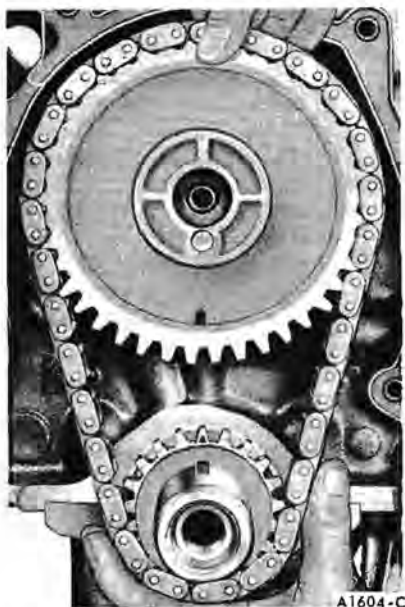

FIG. 33—Timing Chain Removal or Installation
14. Remove the camshaft sprocket cap screw, washers and fuel pump eccentric. Slide both sprockets and the timing chain forward, and remove them as an assembly (Fig. 33).
1. Position the sprockets and timing chain on the camshaft (Fig. 33). Be sure the timing marks on the sprockets are positioned as shown in Fig. 32.